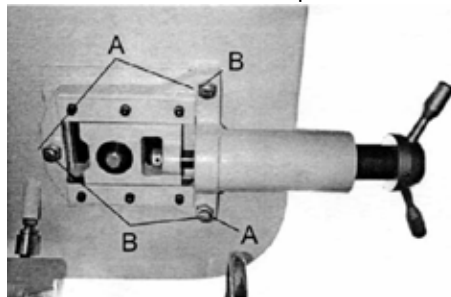

Figure 14. Blade Tracking Adjustment
4. See Figure 14. Loosen 3 bolts (**A**) on the top of the tracking adjustment plate. Tracking adjustment is accomplished by either loosening or tightening three adjusting nuts (**B**). Tracking is set properly when the back of the blade slightly touches the wheel flange.